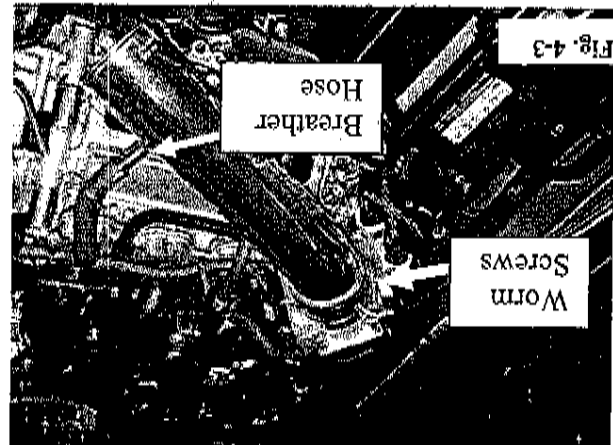

Fig. 4-3
- (1) Loosely secure the #52 hose clamp to the pipe side of the throttle body coupler and the #48 hose clamp on the other side of the coupler. The worm screws must be clocked so that they are near the firewall (Fig. 4-3).
- (2) Install the throttle body coupler/pipe assembly onto the throttle body (Fig. 4-3).
- (3) Tighten the #52 hose clamp on the throttle body coupler. Align the pipe with the breather hose coming from the valve cover. Then tighten the #48 hose clamp on the throttle body. Torque: 3.4 N·m (35 kgf·cm, 30 in·lb) (Fig. 4-3).
- (4) Install the breather hose on the nipple located on the inlet pipe. Secure using the stock hose clamp (Fig. 4-3).